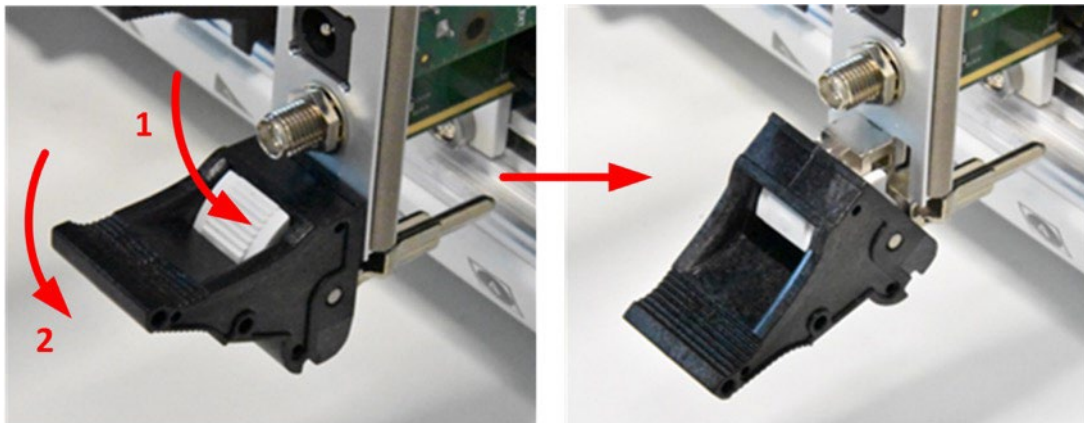

Figure 18: Push the ejector latch down prior to inserting the module
3. Push the ejector handle down (Figure 18) by pressing the grey button (step 1) on the handle and subsequently pushing the black handle (step 2) down.
- Push the ejector handle down (Figure 18) by pressing the grey button (step 1) on the handle and subsequently pushing the black handle (step 2) down.